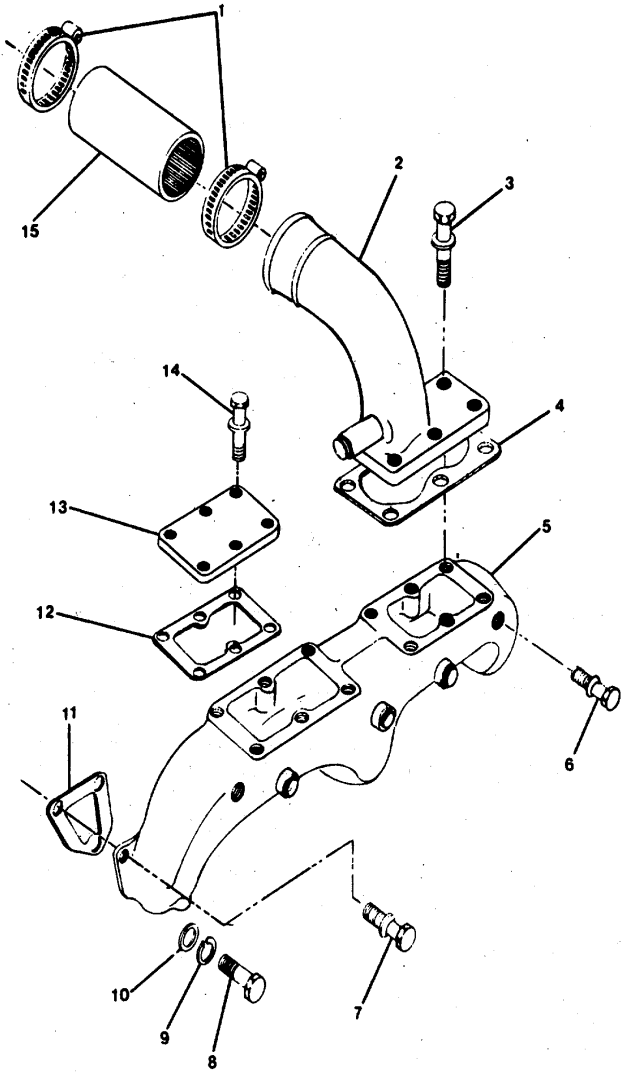

FIGURE 2-50. *Air Intake Manifold Group.*
- J. Install nonmetallic hose (25) to engine water outlet (27) and outlet (19). Secure with hose clamps (24, 26). Tighten hose clamps to 35-40 in-lb torque.
- k. Install nonmetallic hoses (29, 37) to water inlet connection (31) and metallic tube (35). Secure with hose clamps (28, 30, 36 and 38). Tighten hose clamps to 35-40 in-lb torque.
**2-39. Replace/Repair Air Intake Manifold Group. (FIGURE 2-50)**